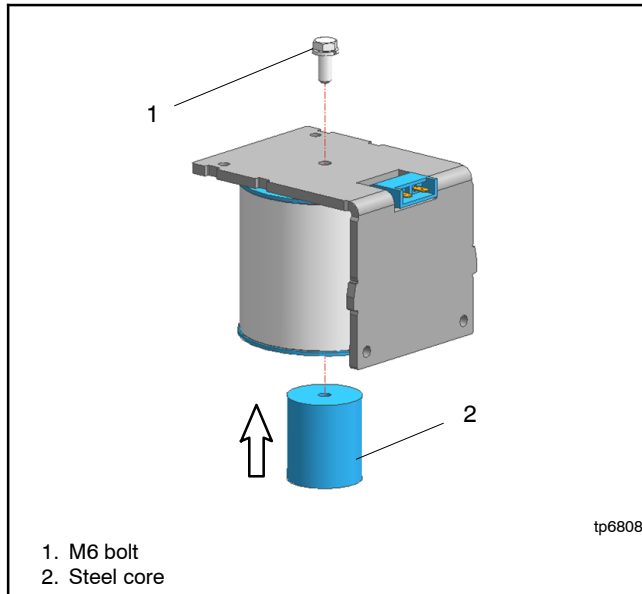

Figure 7-37 Create Coil Assembly
2. Insert the steel core into the coil and tighten the M6 bolt to create the coil assembly. Tightening torque for the M6 bolt: 6 Nm. See Figure 7-37.